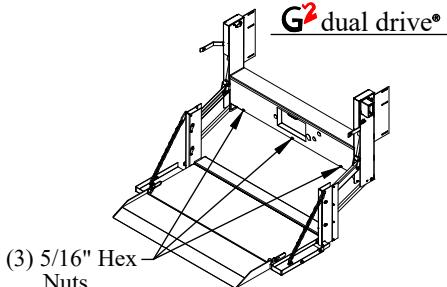

Figure 13: Box cover locations.
1. Remove the box cover by removing the 5/16" hex head nuts or bolts (Figure 13).